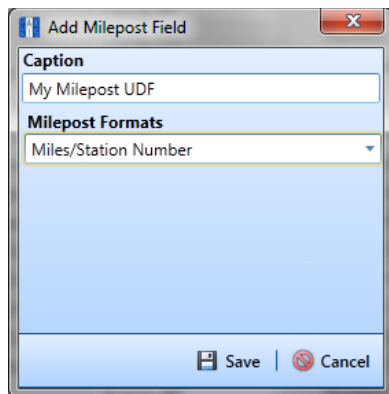

Figure 3-41. Add Milepost Field
- 4 Click  **Milepost** in the toolbar to open the *Add Milepost Field* dialog box (Figure 3-41).